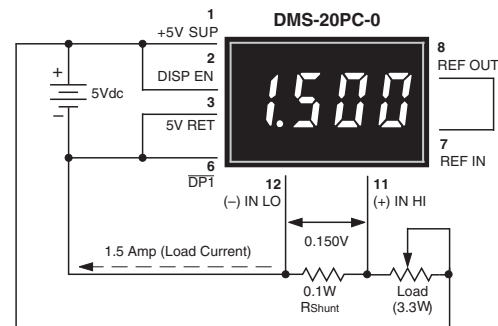

Figure 9. Basic DC Ammeter Circuit
- 7. Digital Ammeter:** Digital ammeters are finding ever-increasing usage because analog-style ammeters (moving-vane types) now cost roughly the same as their digital counterparts. Additionally, analog ammeters are not nearly as rugged as modern digital panel voltmeters. Figure 9 illustrates a typical ammeter application. The circuit uses a $\pm 200mV$ input meter — the preferred range for most ammeters — to measure the voltage developed across a 0.1Ω current shunt. The circuit shown represents a basic ammeter connection diagram. A detailed application note describing digital dc ammeters is included in DATEL's new Digital Panel Meter Databook.